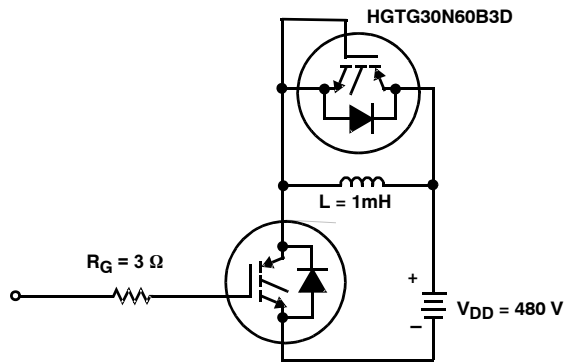

Figure 17. Inductive Switching Test Circuits
4. Values for two Turn-On loss conditions are shown for the convenience of the circuit designer. E_{ON1} is the turn-on loss of the IGBT only. E_{ON2} is the turn-on loss when a typical diode is used in the test circuit and the diode is at the same T_J as the IGBT. The diode type is specified in Figure 17.